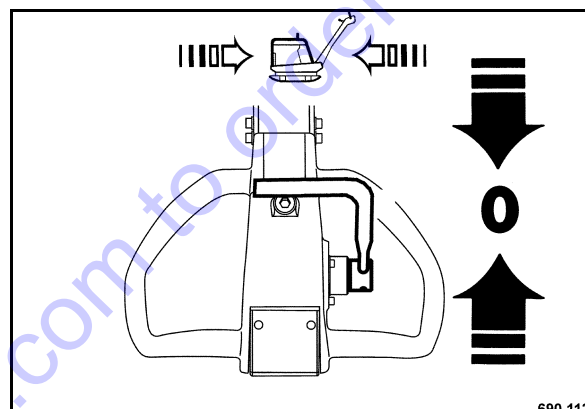

Fig. 11
- Shift the travel lever (Fig. 11) to position "0".